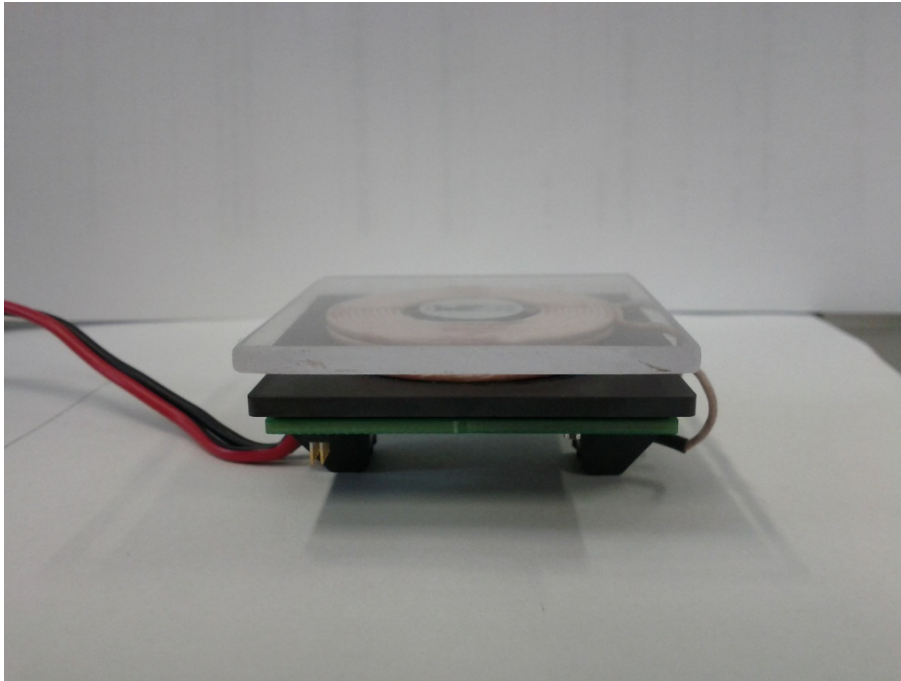

Figure 3 - Thickness between coil and the support surface for the receiver.
2. Ensure a minimum thickness of 2–3 mm between the coil and the device, as shown in Figure 3.